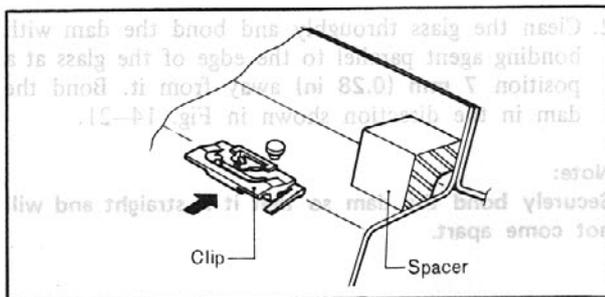

Fig. 14-25
5. Insert each mould retaining clip to the clip insertion portion in the manner shown in Fig. 14-25. Replace the retaining clips as required to insure adequate mould retention.